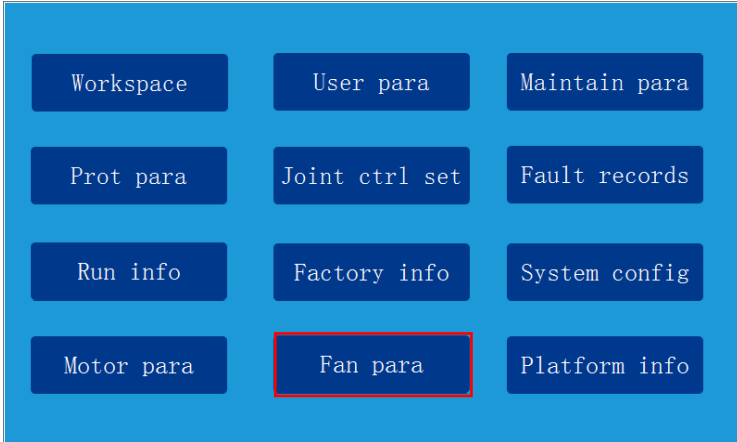

Figure 4-16 Menu interface
1. Refer to 4.1.2 *Commissioning steps for dual-VFD air compressor*, select to turn off the frequency-conversion fan on the **System Config** page, and after commissioning on the **System Config** page is done according to commissioning guidance, return to the menu page as shown in Figure 4-16.